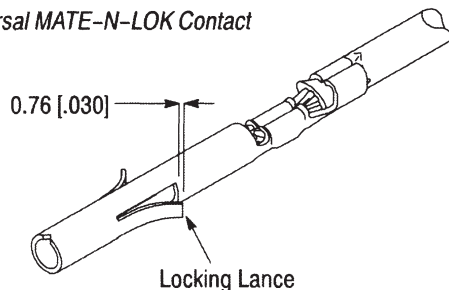

Figure 2
*If the extracted contact is NOT damaged, it may be re-inserted. For a contact removed from a Universal MATE-N-LOK connector, the locking lances MUST be reset to their original position as shown in Figure 2. DO NOT re-use a defective or damaged contact.*